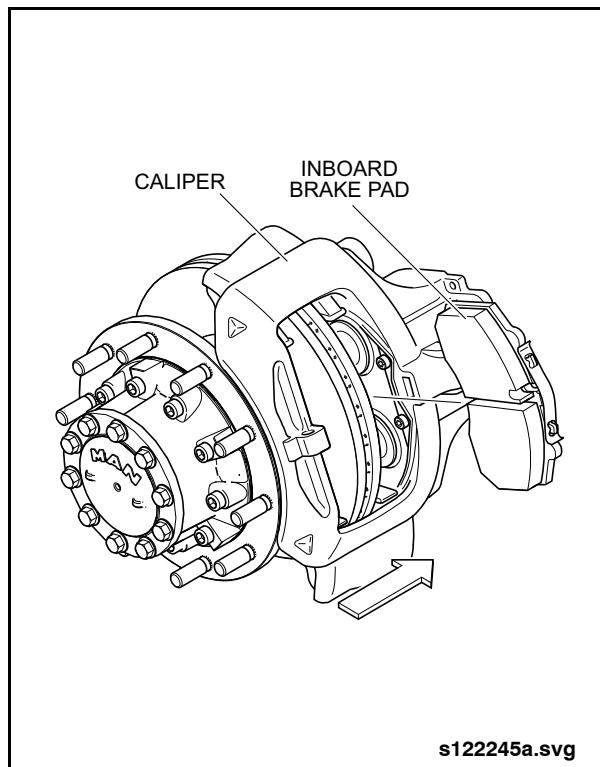

Fig. 2-122: Brake Pad Installation
1. Push the brake caliper inward against the stop and insert the inboard brake pad. See See “Fig. 2-122: Brake Pad Installation” on page 108.